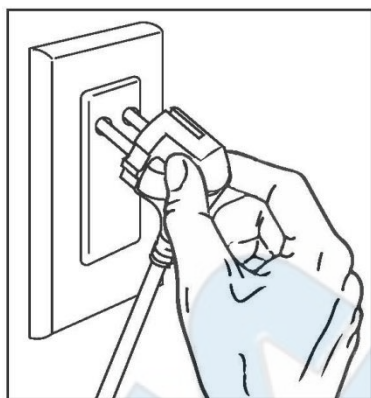

figure 1
1. Plug-in the sander's AC power cord to the power source (220VAC output). The warning "beep" sounds would be occurred after the plug is securely plug-in to the power source and the LED indicator shows "Solid Red" color at the moment.- see figure 1.